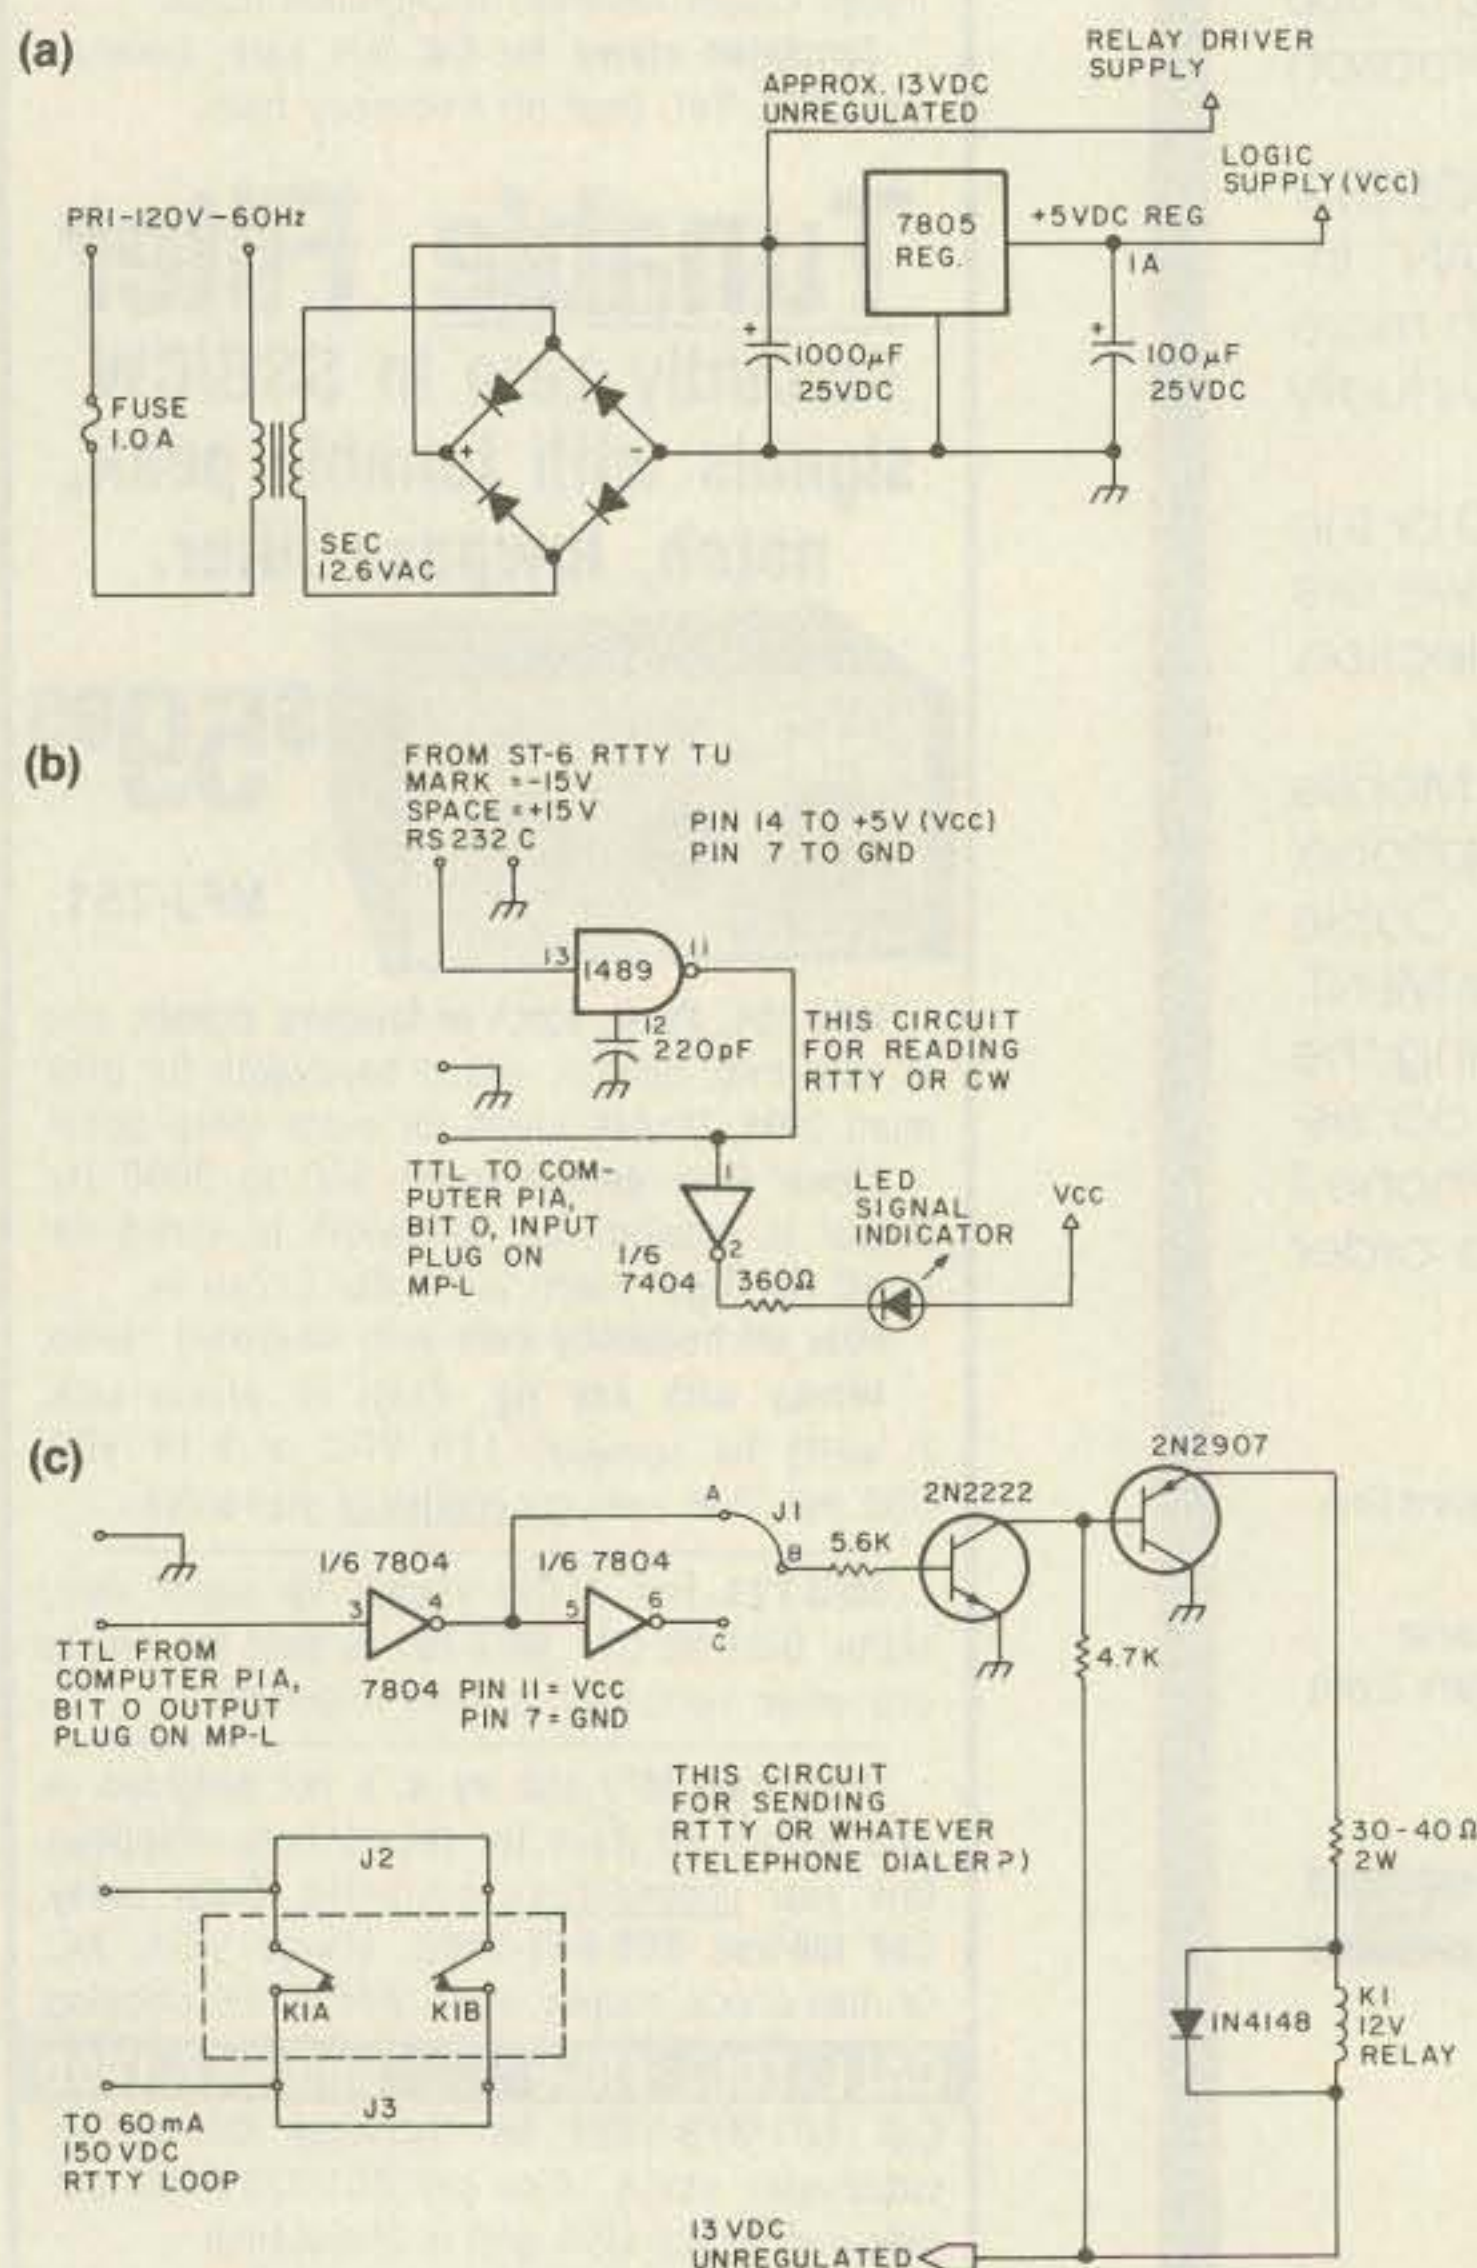

Fig. 1. Interface box with power supply. (a) Power supply. (b) Input switching. (c) Output switching.
10. Small interface box, RS232-C to TTL for input to computer, also contains a computer-driven relay with two paralleled sets of NC contacts in series with the 60-mA RTTY local loop for output. (See Fig. 1.)
A few words about Fig. 1: Since I am not an engineer, these circuits are probably somewhat unorthodox, but they are working in my